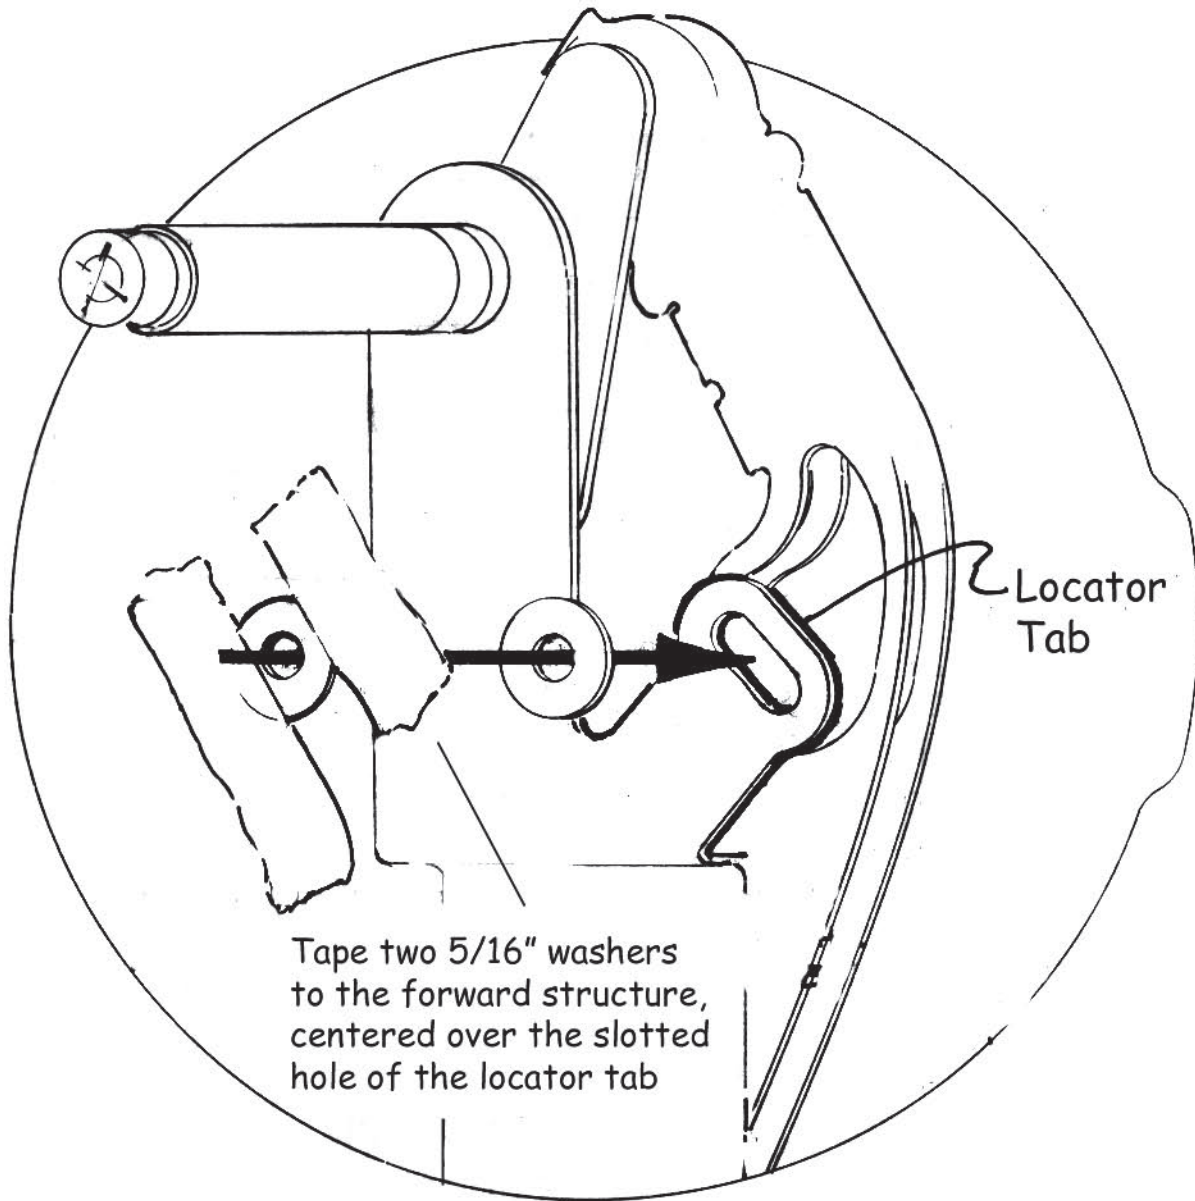

Figure 3
We make every effort to adjust the drive arm on the motor so that the unit will park correctly at the end of the stroke. If the wipers park either early (before the end of the travel) or late, review figure 3.
- Pry the drive arm loose from the motor shaft taper and rotate it to line up points "A" "B" and "C" as noted in figure 3.